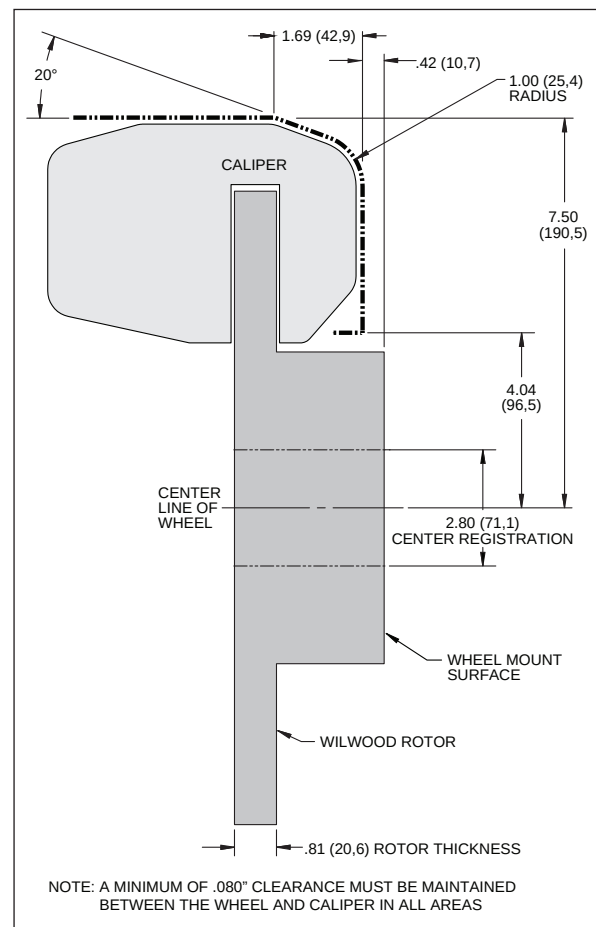

Figure 4. Wheel Clearance Diagram
- Review the Wheel Clearance Diagram (Figure 4, page 4) to verify that there is adequate clearance with the wheels you will be using with the installation.
• Verify your wheel clearance using Figure 4.